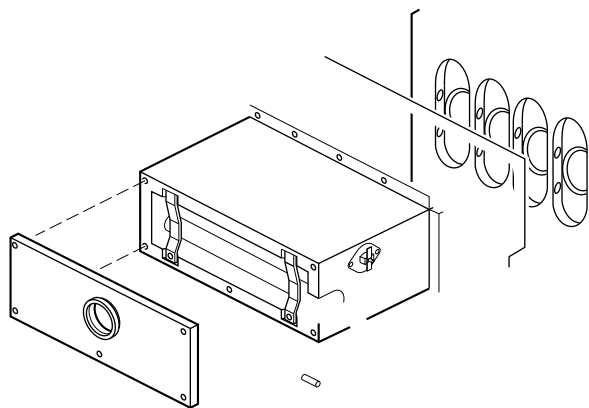

Fig. 5—Burner Box Assembly
7. Remove screws that secure manifold to burner box. (See Fig. 5.)
10. Remove screws attaching burner box to cell panel. (See Fig. 5.)